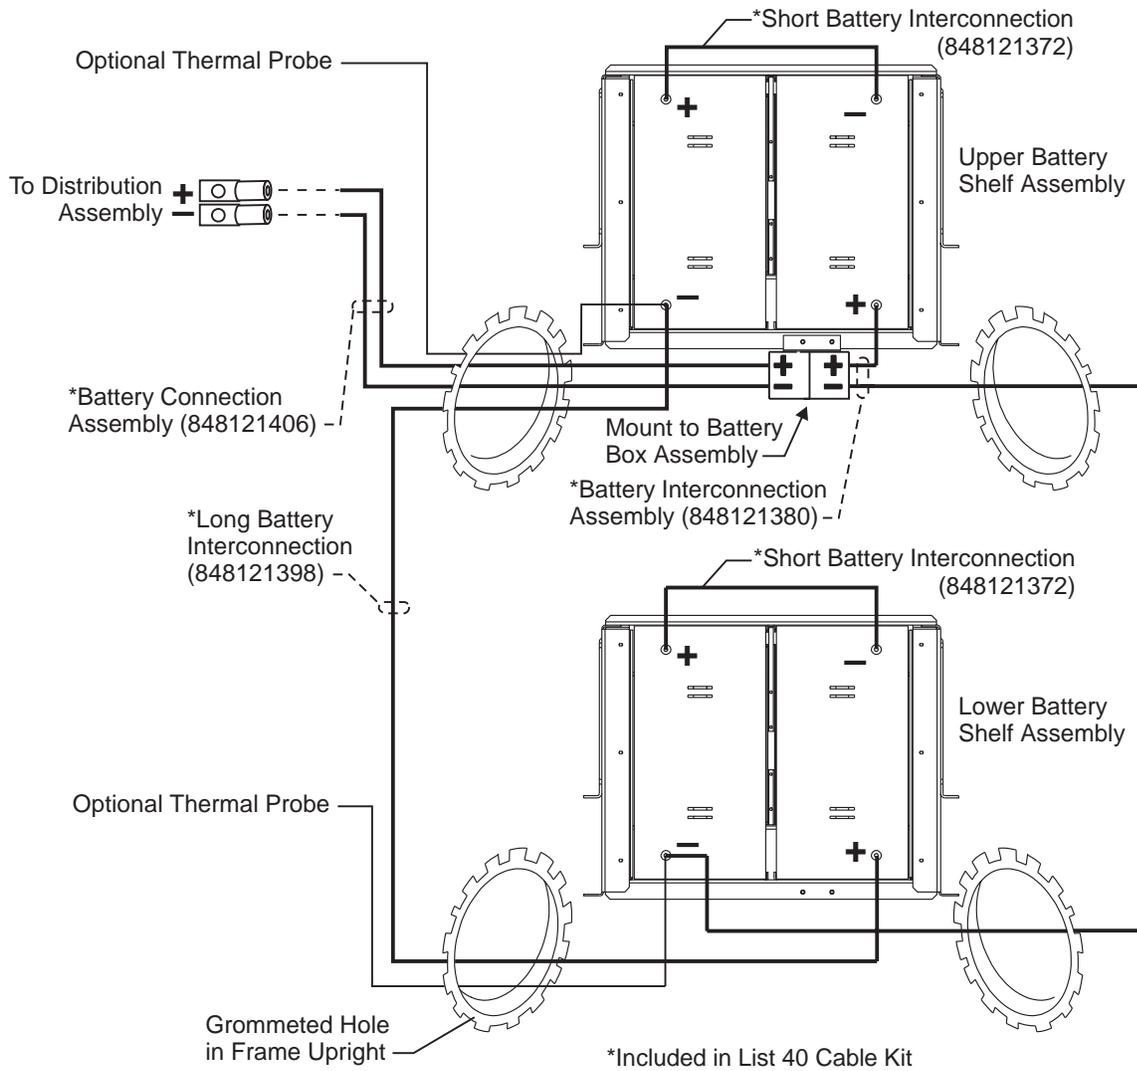

Figure 5-6: Battery installation and wiring
3. Slide two Unigy I™ batteries into each battery shelf. See Figure 5-6 for proper battery orientation.
4. Using the long battery interconnection cable provided (848121398), connect the right-hand battery on the lower shelf to the left-hand battery on the top shelf as shown in Figure 5-6. Ensure that the cable is routed through the grommets on the frame as shown.
8. Connect the short interconnection cables (848121372) on the top and bottom shelves as shown in Figure 5-6.